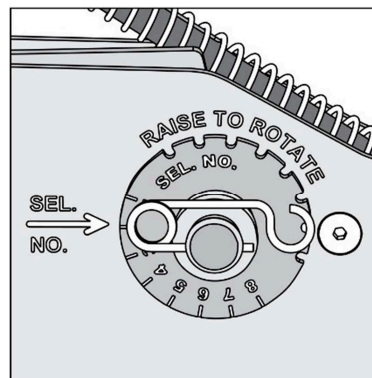

Figure 4
5. Replace the spring clip. See Figure 4.